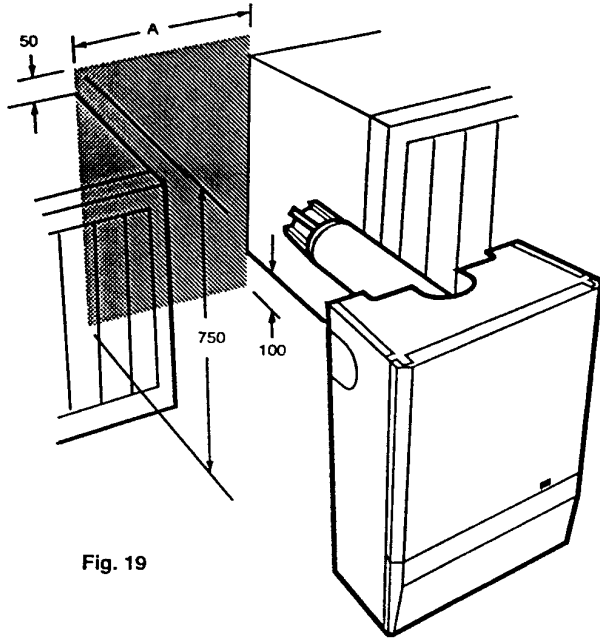

Fig. 19
5.3 Position the Boiler (Fig. 19)